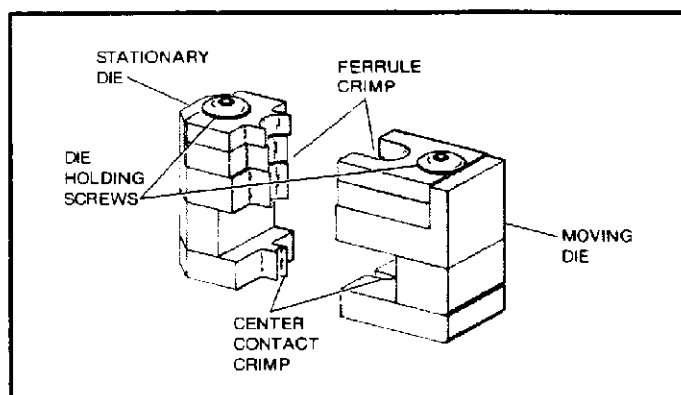

Figure 1
- Each set of dies consists of a moving die and a stationary die. See Figure 1.
- The die assemblies have two sets of crimping dies as shown in Figure 1. One set crimps the center contact; the other set crimps the braid ferrule. Both crimps are made at the same time.